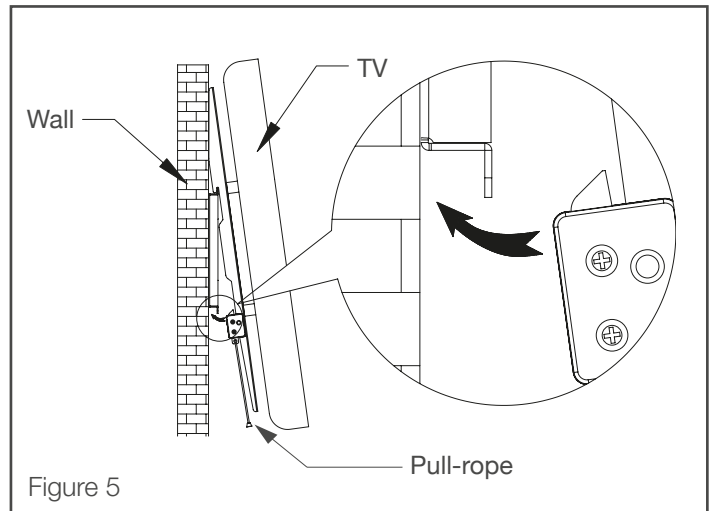

Figure 5
3. Slowly lower the bottom of the TV until the bottom of the mounting arm locks into the bottom of the wall plate. This will help ensure that your TV does not fall off your wall mount during use (see Figure 5).